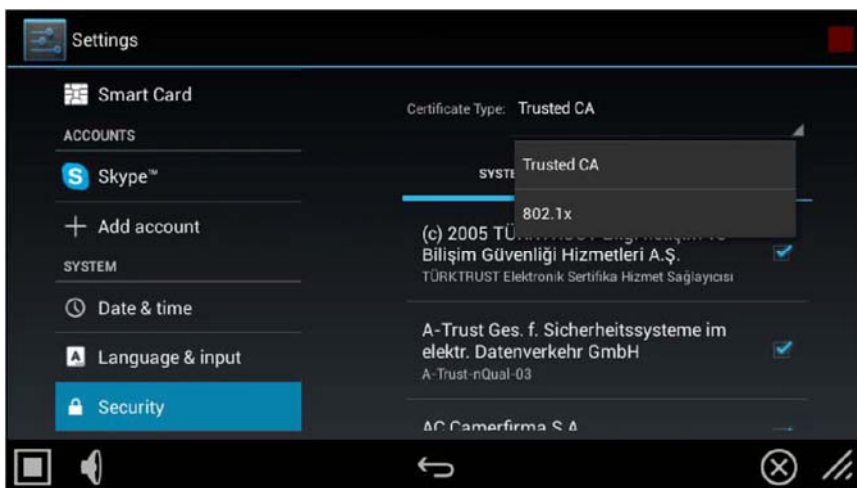

FIG. 105 Security page - Certificate Type menu **NOTE:**
3. Supported Certificate Types include Trusted CA and 802.x1. Note that each list has two tabs: System and User. To select which type of certificate to display, select either Trusted CA or 802.x1 from the **Certificate Type** drop-down menu (FIG. 105):